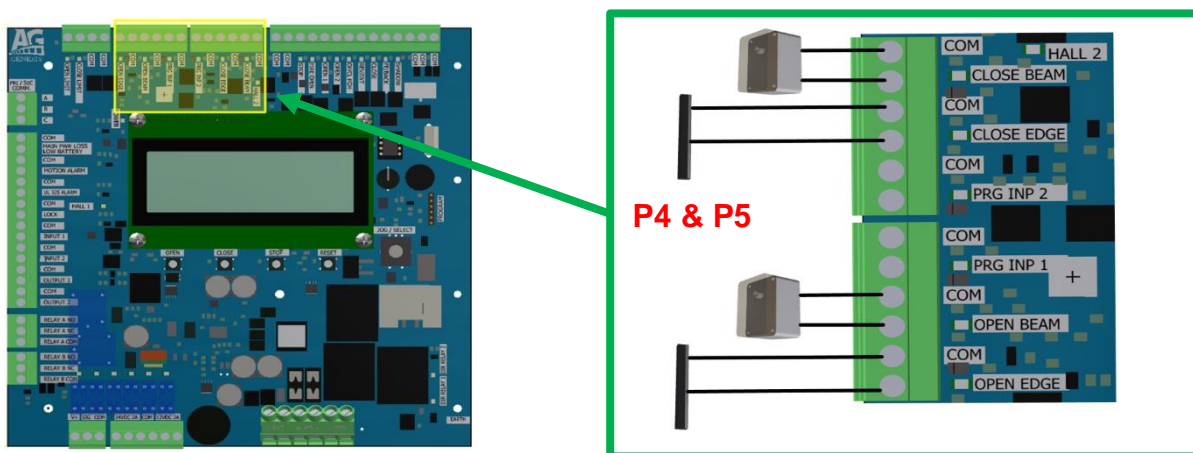

FIGURE 7
8: Connect the **Arm Open Edge** wires to the **OPEN EDGE** terminals on the **GENESIS** board as shown in **FIGURE 7** below.
- Observe the led below the **Open Edge** port on the **GENESIS** control board (**FIGURE 7**). It will illuminate when compressing the **Arm Open Edge** signals contact.
10: Connect the **Face Only Open Edge** wire to either **PRG INP 1** or **PRG INP 2** and the corresponding com pins as shown in **FIGURE 7** (page 4). Wires are reversible/ no polarity.
- Observe the led below the corresponding port being used on the GENESIS control board (**FIGURE 7**). It will illuminate when compressing the **Face Only Open Edge** signaling contact.